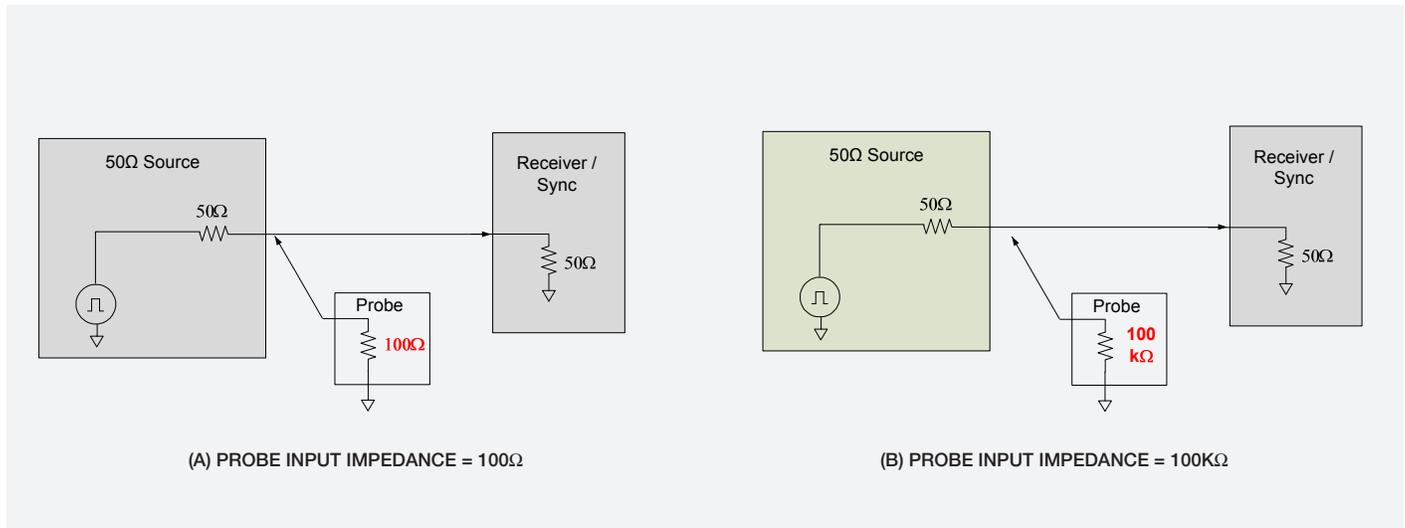

FIGURE 1. Probe loading is dependent upon the input impedance of the probe and the sensitivity of the circuit to this impedance.
When a probe is attached to a circuit, it is important to understand the probe's impact on the circuit's behavior. The degree of probe loading depends upon two factors: the input impedance of the probe and the sensitivity of the circuit to this impedance. Figure 1 illustrates a simple example of connecting two probes, one with low input impedance and one with high input impedance to a circuit with a source impedance of 50Ω that is terminated with 50Ω at the receiver (RX) portion of the system.